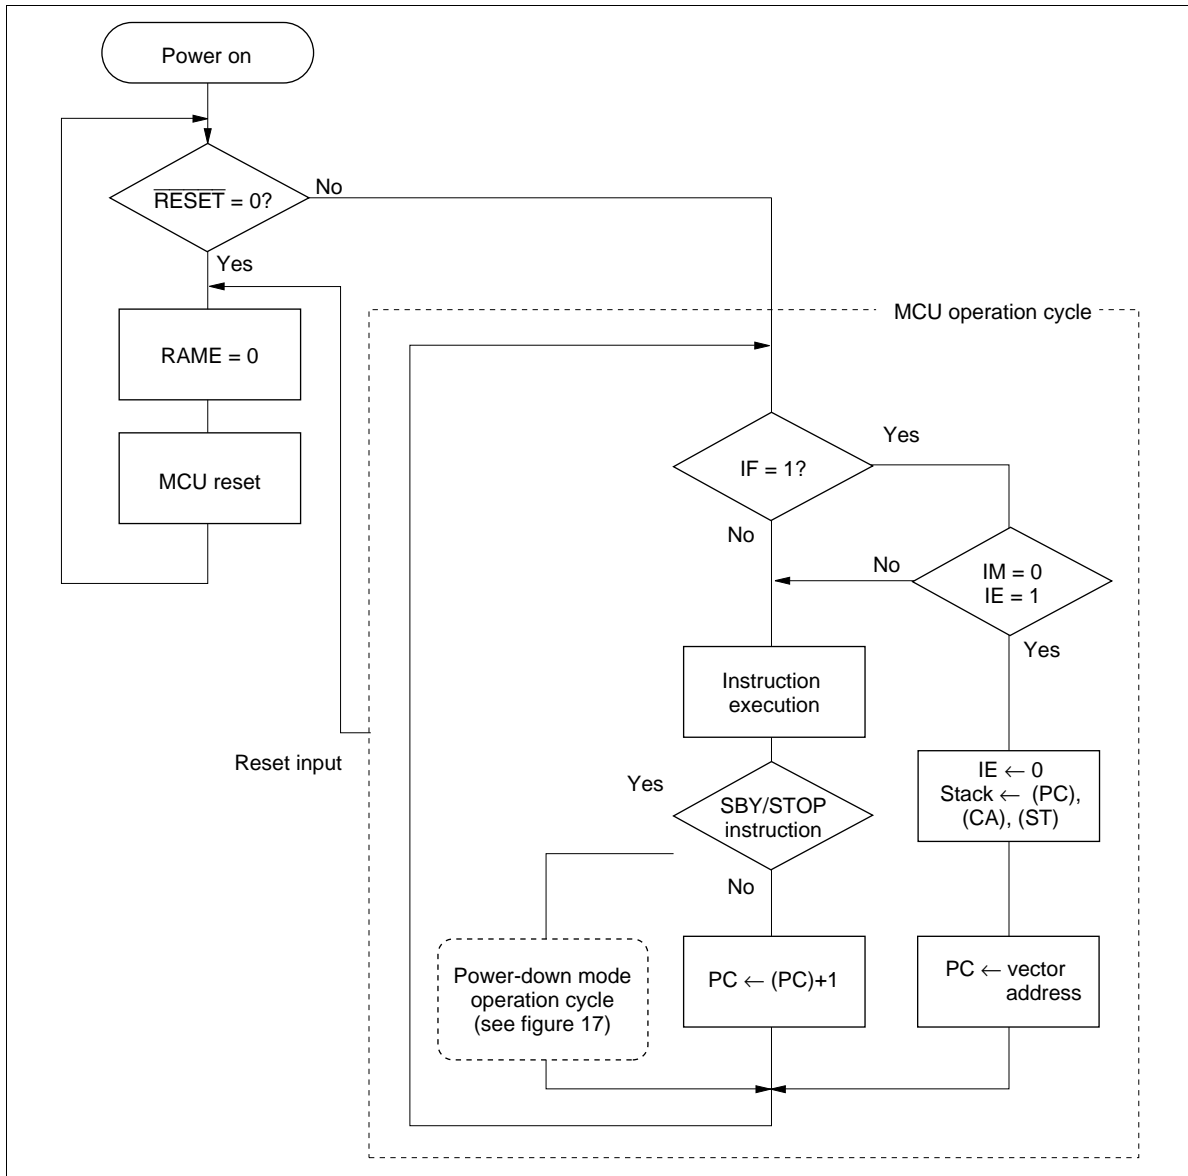

Figure 16 MCU Operation Sequence (Power On)
**MCU Operation Sequence:** The MCU operation flow is shown in figures 16 and 17.  $\overline{\text{RESET}}$  input is asynchronous, and causes an immediate transition to the reset state from any MPU operation state.